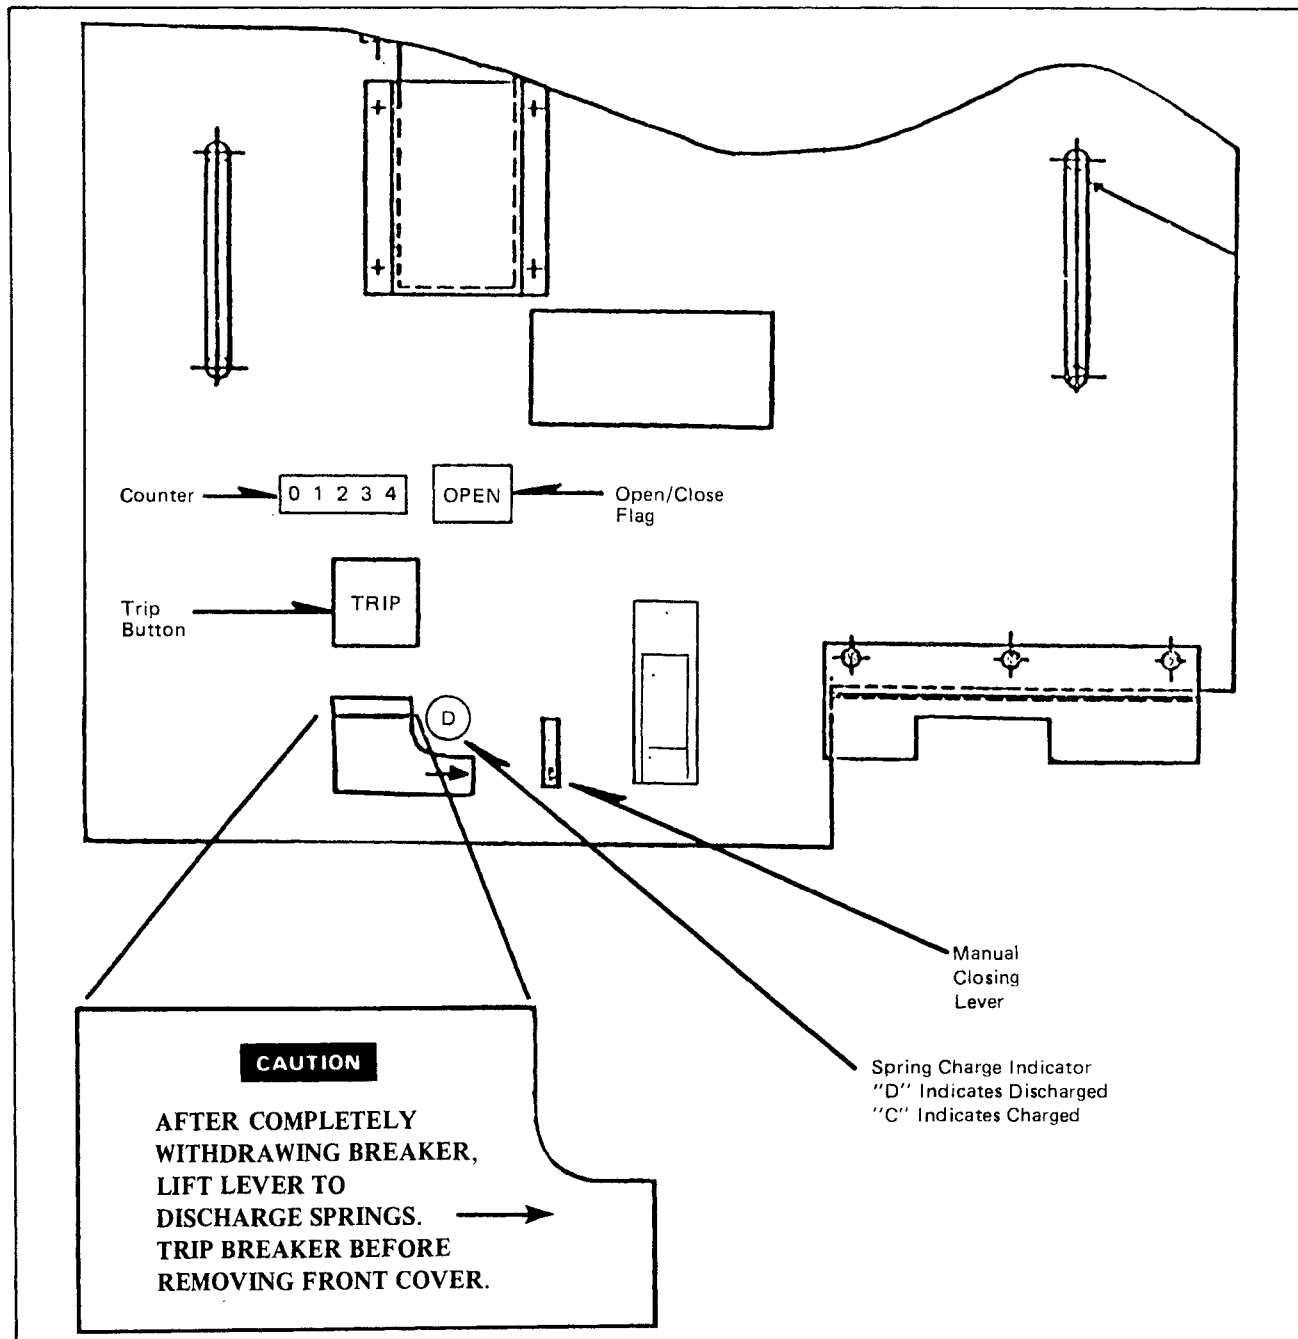

Fig. 25 Stored-Energy Mechanism, Front Cover
A spring position indicator, in the shape of a disk, is located next to the left-hand crank arm assembly. The indicator rotates with the crank arm assembly and has the letters “D” and “C” located around the edge of the disk, facing outward. The letters can be viewed through the “dead front” cover and the letter showing indicates spring discharged (D) or spring charged (C) (Fig. 25).